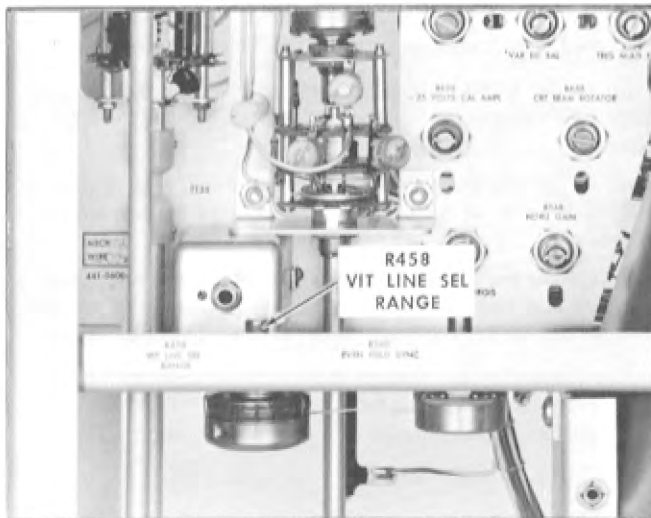

Fig. 6-31. Location of VIT LINE SEL RANGE control (R458).
- c. Adjust the VIT LINE SEL RANGE control (R458; see Fig. 6-31) so the brightening pulse just starts to jump between the 21st and 22nd lines as observed on the test oscilloscope.